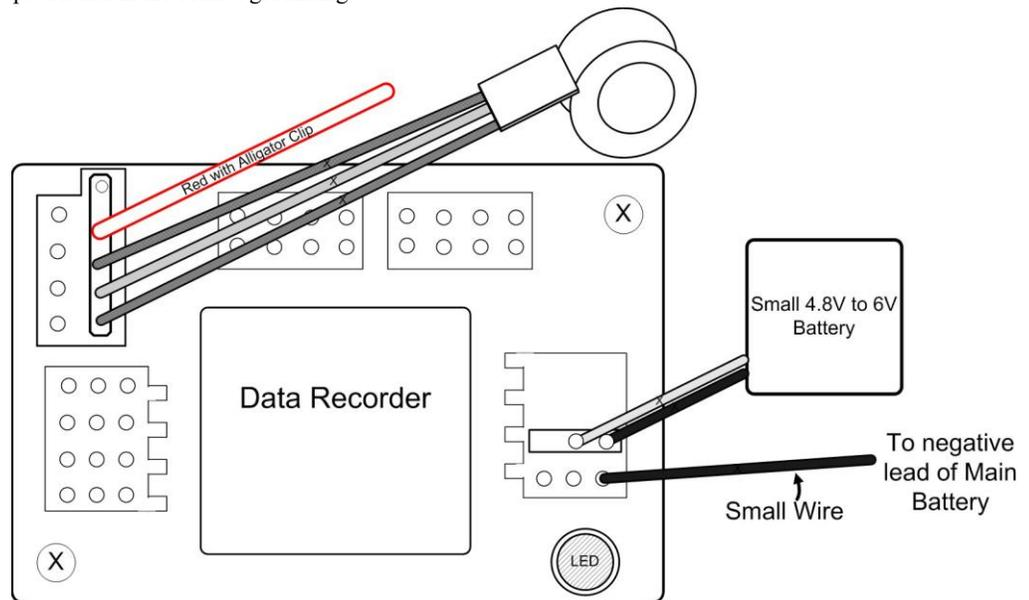

Figure 2
- a) **RECOMMENDED:** Disconnect all connections between your Receiver (including BEC/Throttle output of the ESC) and your Recorder, and power the recorder from a separate small battery. Then, connect a small ground wire between one of the Recorder's servo ground pins, and the negative lead of the battery being measured, as shown in Figure 2. Note that the resulting connections should not bypass the ESC's isolation between the BEC/Throttle ground and the ground of the battery being measured, since the BEC/Throttle ground is NOT connected to the recorder. Note that servo position logging will not be possible in this scenario.
- b) If you want to continue to power the Recorder from the ESC's BEC output or the battery you are using to power the Receiver (and to be able to log servo positions), you will need to leave the servo connections from the Receiver to the Recorder connected, AND you will need to connect the small wire between the between one of the Recorder's servo ground pins, and the negative lead of the battery being measured, as shown in Figure 2. **CAUTION! This configuration causes the internal ESC isolation to be bypassed. While the vast majority of the customers who have done this with our equipment have not reported any problems, we have had one report of two different high powered ESC's which may have been damaged by performing this connection. Therefore, we strongly recommend contacting the ESC manufacturer or consulting the ESC manual to ensure that connecting the ground of the ESC's throttle output and the main battery ground together will not cause a problem with that particular ESC, before proceeding. Bypassing the ESC isolation is done at your own risk!**